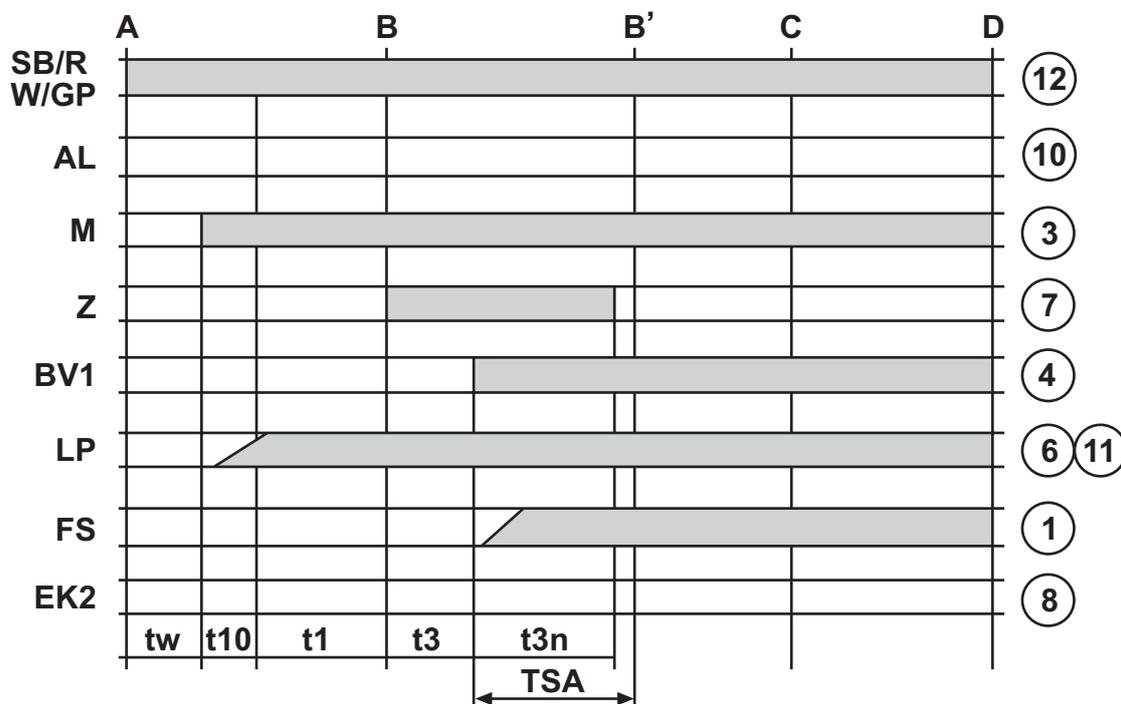

fig. 13
- Operation starts according to the diagram of fig. 13.